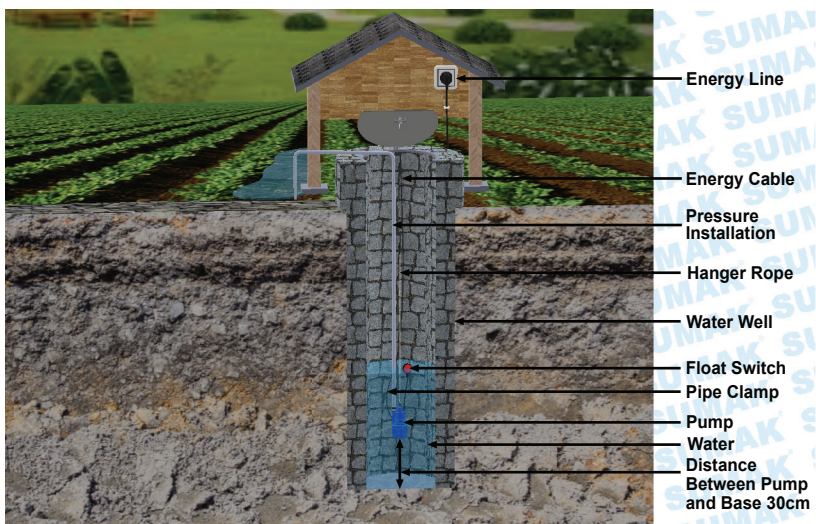
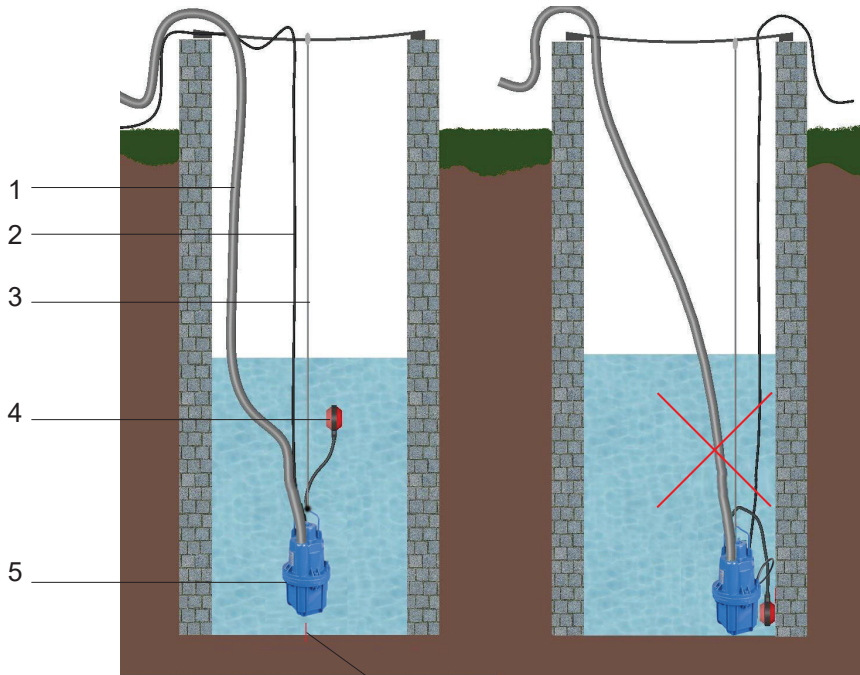

Figure 1
Figure 2
- 8- Assemble the pump according to Figure 1 on Page 17.
- 27- Please check Figure 1 in Page 17 and Figure 2 in Page 18 for usage of pump and assembly information while mounting, check Figure 3-4 in Page 19 for working mechanism of the float switch, Figure 6 in Page 13 for electric connection, Figure 7 in Page 24 for life security warnings.
Do not use the pump hose as a carrier or support. While you are assembling the pump use sleeve equally to the input and output edges. Do not restrict the outputs certainly. Pay attention that, there should not have dust, burr, sandy componets in the hose you use. These materials in the pipe may damage the pump. While you are assembling the pump, mount hose equally to the output edge. Take energy cable to the network with mounted to wall if possible. Hang down the pump centering the borehole. Pump should not touch borehole well. Please check (Page 18, Figure 2). Tighten the pump hose clamp by compressing the hose sleeve otherwise it will take air and effects pump, performance negatively. Check out the hose you use for installment if there is a negative situation such has hole, rip or not.
(See Figure 2)